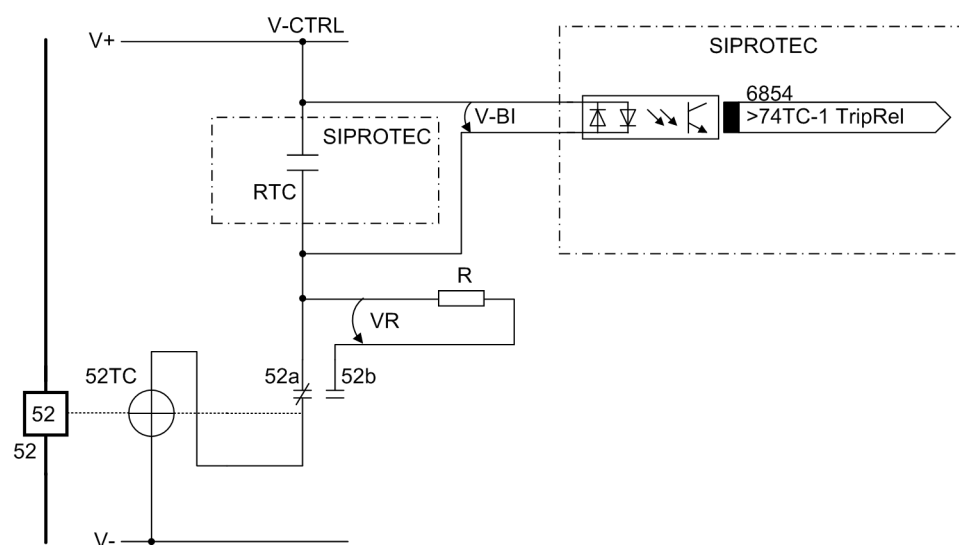

Figure 3-2 Principle of the trip circuit monitoring with one binary input
If one binary input is used, a bypass resistor R must be used (refer to Figure 3-2). This resistor R is connected in series with the second circuit breaker auxiliary contact (Aux2), to also allow the detection of a trip circuit failure when the circuit breaker auxiliary contact 1 (Aux1) is open, and the command relay contact has reset. The value of this resistor must be such that in the circuit breaker open condition (therefore Aux1 is open and Aux2 is closed) the circuit breaker trip coil (TC) is no longer picked up and binary input (BI1) is still picked up if the command relay contact is open.